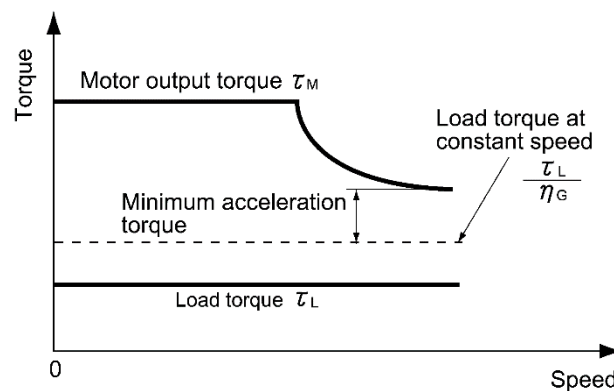

Fig. 10.2-2 Example study of minimum acceleration torque
2) Calculate the **minimum acceleration torque** (See Fig. 10.2-2)